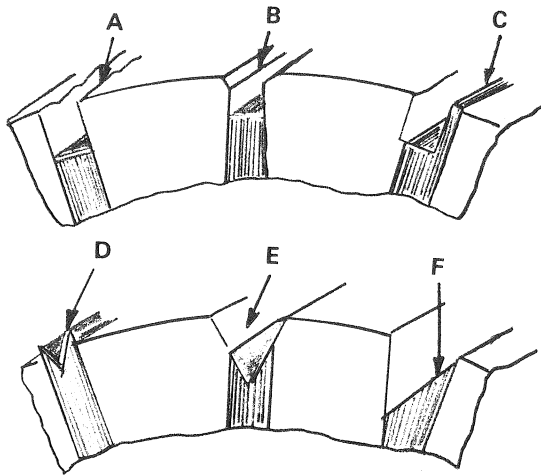

FIGURE 4-2 UNDERCUT COMMUTATOR
4.13.2 When a square undercutting tool is used, it should be slightly wider than the mica and well centered so that the mica fin as shown at (C), figure 4-2, page 19, is not left. Remove edges as shown at (A) by beveling as shown at (B).
4.13.3 When a "V" undercutting tool is used, the tool should be slightly wider than the mica to provide the bevel as shown at (E), figure 4-2, page 19. The mica fin shown at (D) will result if the undercutting is not deep enough. If the tool is not well centered a fin as shown at (F) will be the result. Always make certain the undercutting tool is centered and cuts deep enough to prevent these undesirable results.